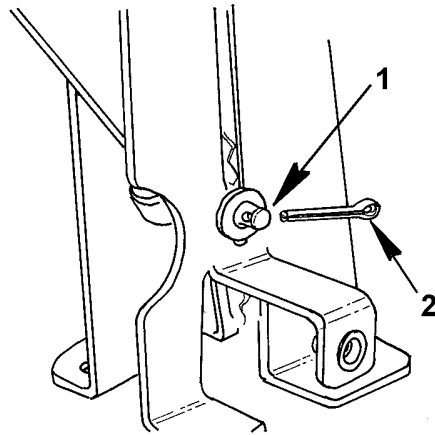
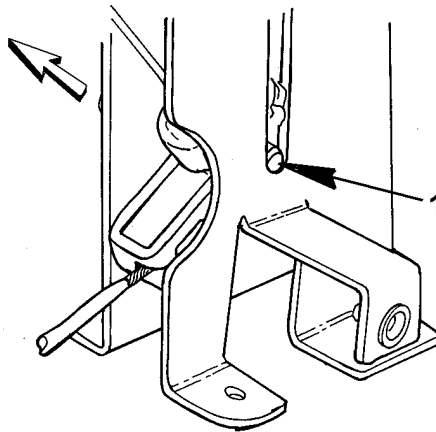

Figure 7: Cotter Pin Removal
Figure 8: Pivot Pin Removal
7. Remove the cotter pin and washer from the pivot pin (Figure 7).
8. Remove the pivot yoke (Figure 8).
11. Connect the parking brake cable to the pivot yoke and assemble to the new lever, by installing the pivot pin, washer and cotter pin (Figure 7 and Figure 8).